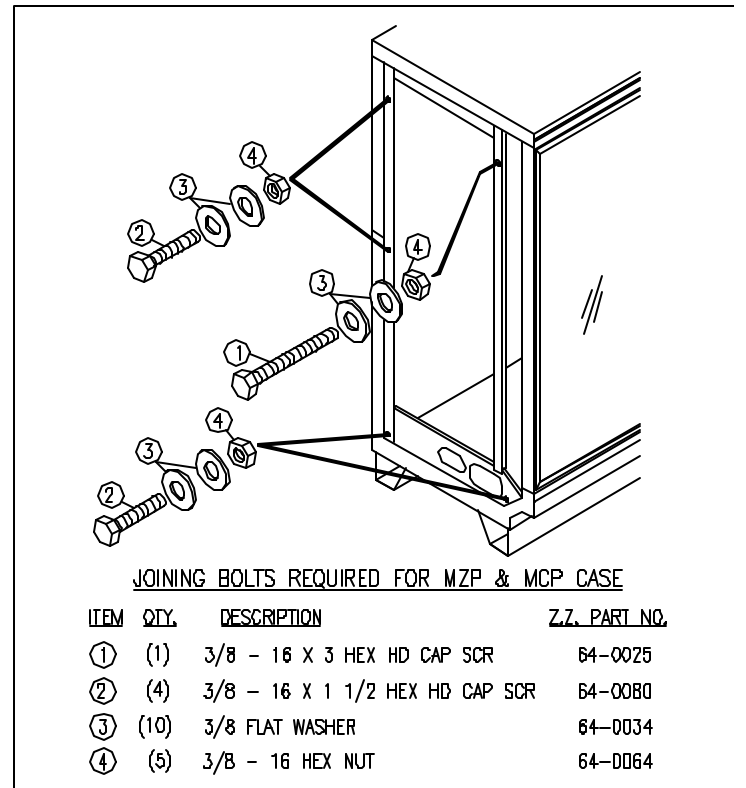
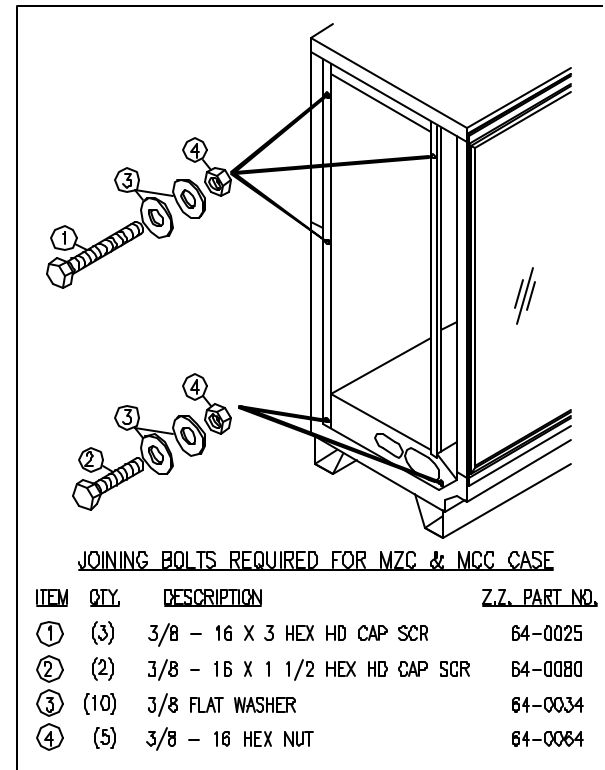
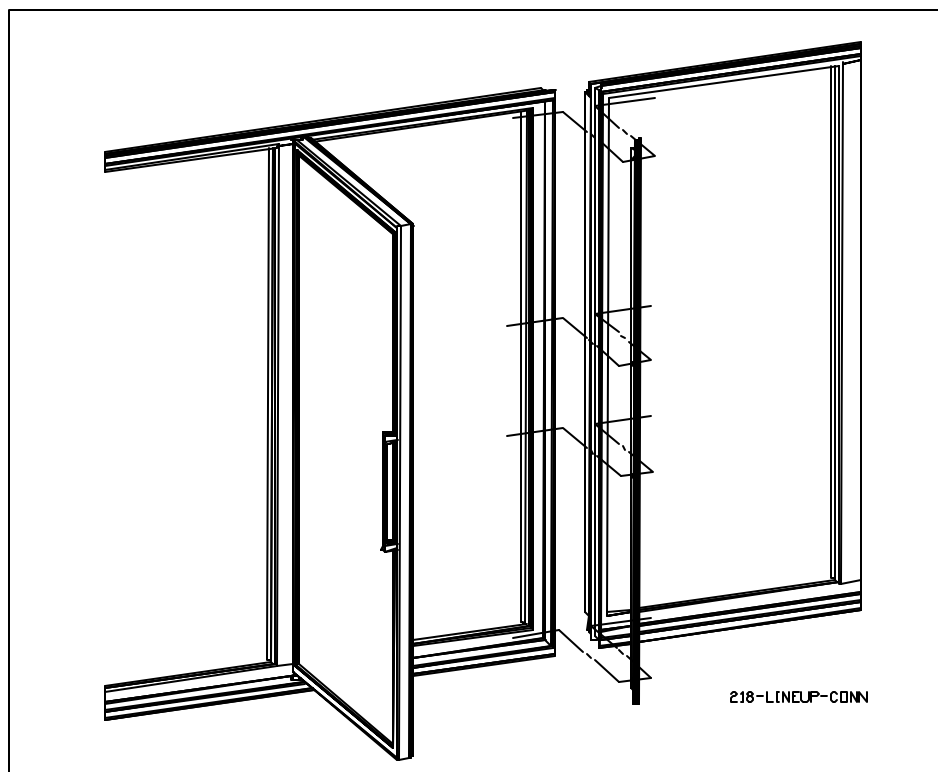

Figure 3: Joining 24" Door Reach-In Freezers
Figure 4: Joining 30" Door Reach-In Freezers
Figure 5: Installing Tee Strips
2. Push the second Reach-In against the end of the first. Level the second Reach-In. Remove the left and right end coil covers and the rectangular pocket hole covers, accessing the holes in the end panels of each freezer as shown. (See Figure 3 for 24" door cases and Figure 4 for 30" door cases). Install tee strips between the doorframes at case joints on 30" door cases. (See Figure 5) Use the special screws and nuts provided.